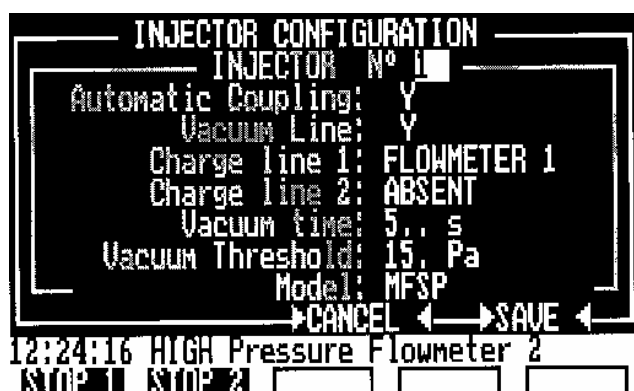

Figure 7.3 Set Injectors (Fillers) window
- **AUTOMATIC COUPLING DEVICE** on the filler (*Automatic coupling: Y* in figure 7.3) When this field is set, at the start of each working cycle the filler connects to the male Hansen coupling of the cooler circuit and at the end of the cycle the filler automatically disconnects from the cooler circuit.
- **VACUUM LINE** on the filler (*Vacuum line: Y* in figure 7.3).
- **CHARGING LINE 1** on the filler (*Charge line 1: FLOWMETER 1* in figure 7.3. If this field is set, you must enter the identification number of the used flowmeter. The RIGHT and LEFT ARROW keys allow to select the current field value between the following available list:
- **CHARGING LINE 2** on the filler (*Charge line 2: ABSENT* in figure 7.3), according to the previous point.
- **VACUUM FILLER TIME**. It is the timer that controls the filler vacuum operation. (*Vacuum time: 5 s* in figure 7.3). This operation evacuates the air volume trapped between the filler coupling and the cooler circuit coupling. It checks the correct connection between the filler and the cooler circuit too.
- **VACUUM FILLER THRESHOLD**. When VACUUM FILLER TIME expires the pressure value must be under the VACUUM FILLER THRESHOLD (*Vacuum Threshold: 15 Pa* in figure 7.3). Otherwise there are some leaks in the connection between the filler and the cooler circuit: an alert occurs and the working cycle stops.